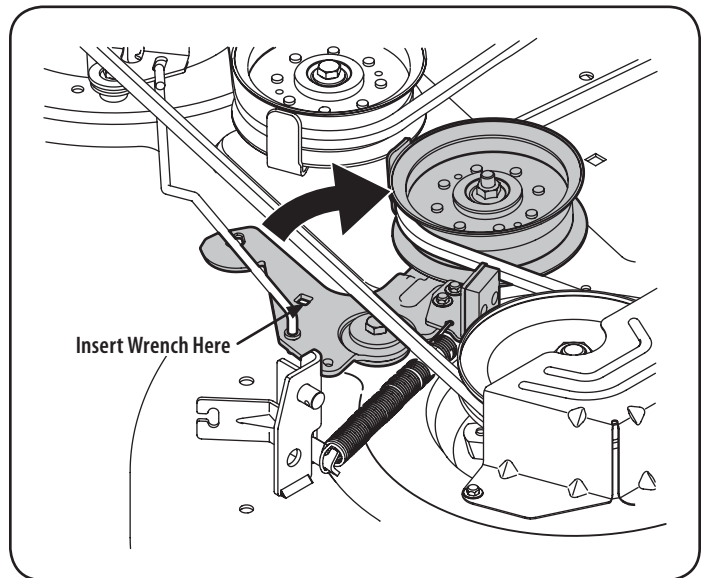

Figure 26
- f. Working on the right side of the tractor if needed, insert a $\frac{3}{8}$ " drive ratchet wrench, set to tighten, into square hole found on the idler bracket. See Figure 26.